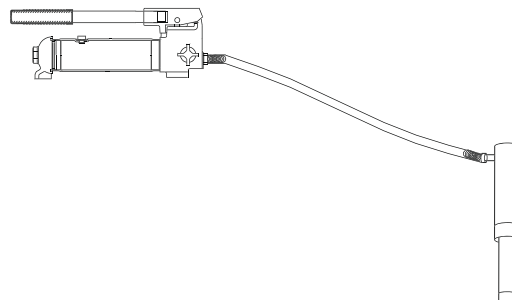

Figure 3 - Pump and ram illustration to bleed air
1. Bleed air from ram: Place pump at a higher elevation than the hose and ram as shown in figure 3 below. The objective is to float the air bubbles up hill and back to the reservoir where they belong. Close valve and extend ram as fas as possible. Open valve fully allowing oil and air to return to reservoir. Repeat this procedure two or three times will do the trick.